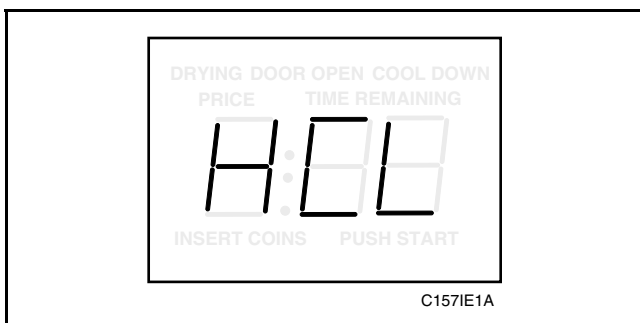

Figure 41
- Press the LOW TEMP (+) pad or the NO HEAT (-) pad to scroll through the programmable options until “HCL” appears in the VFD, *Figure 41*.